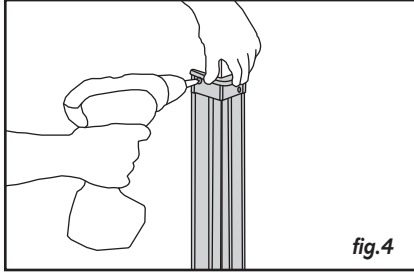

fig.4
- Drill the wall, fit plugs and screw to wall starting with the lower end-cap, the aluminium core and the upper end-cap (fig.4).